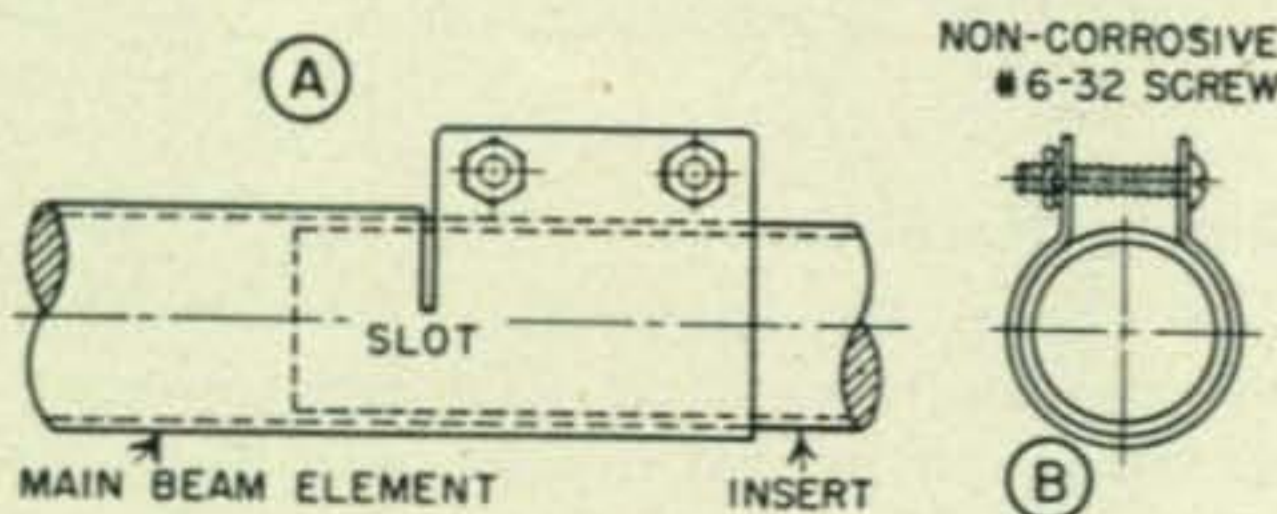
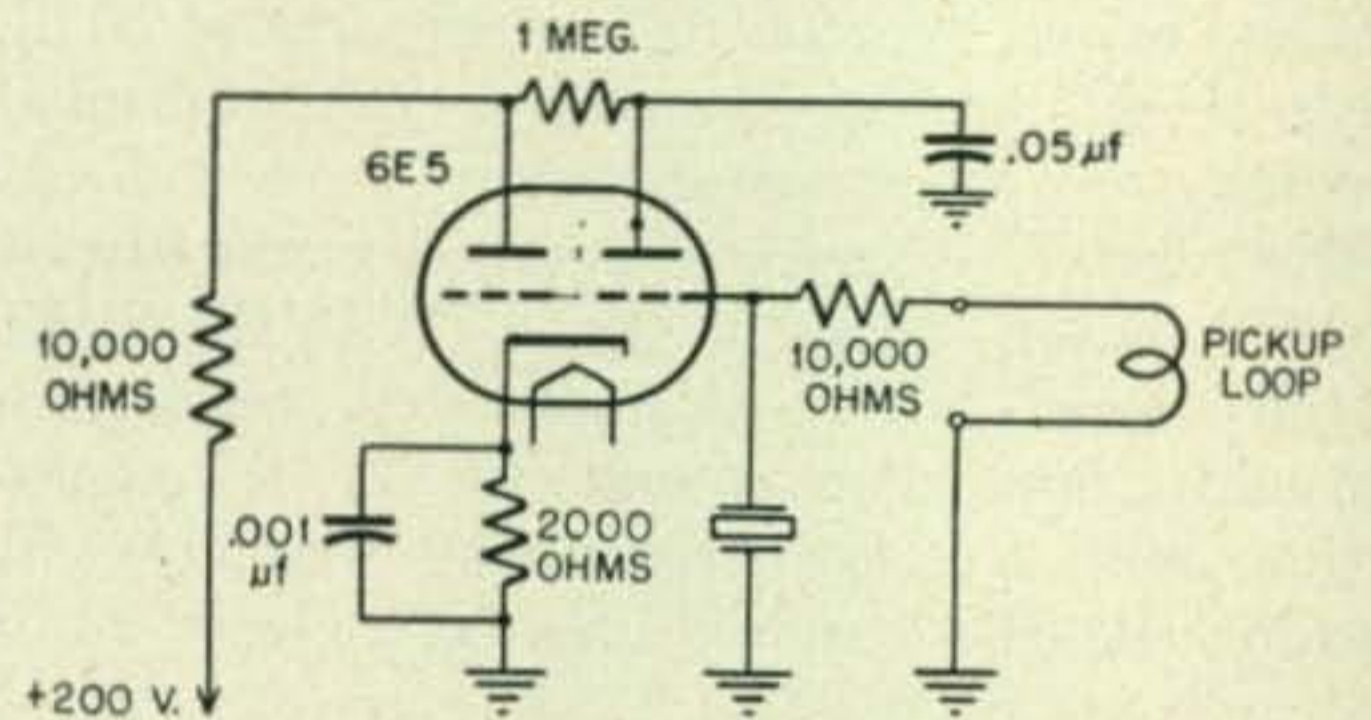
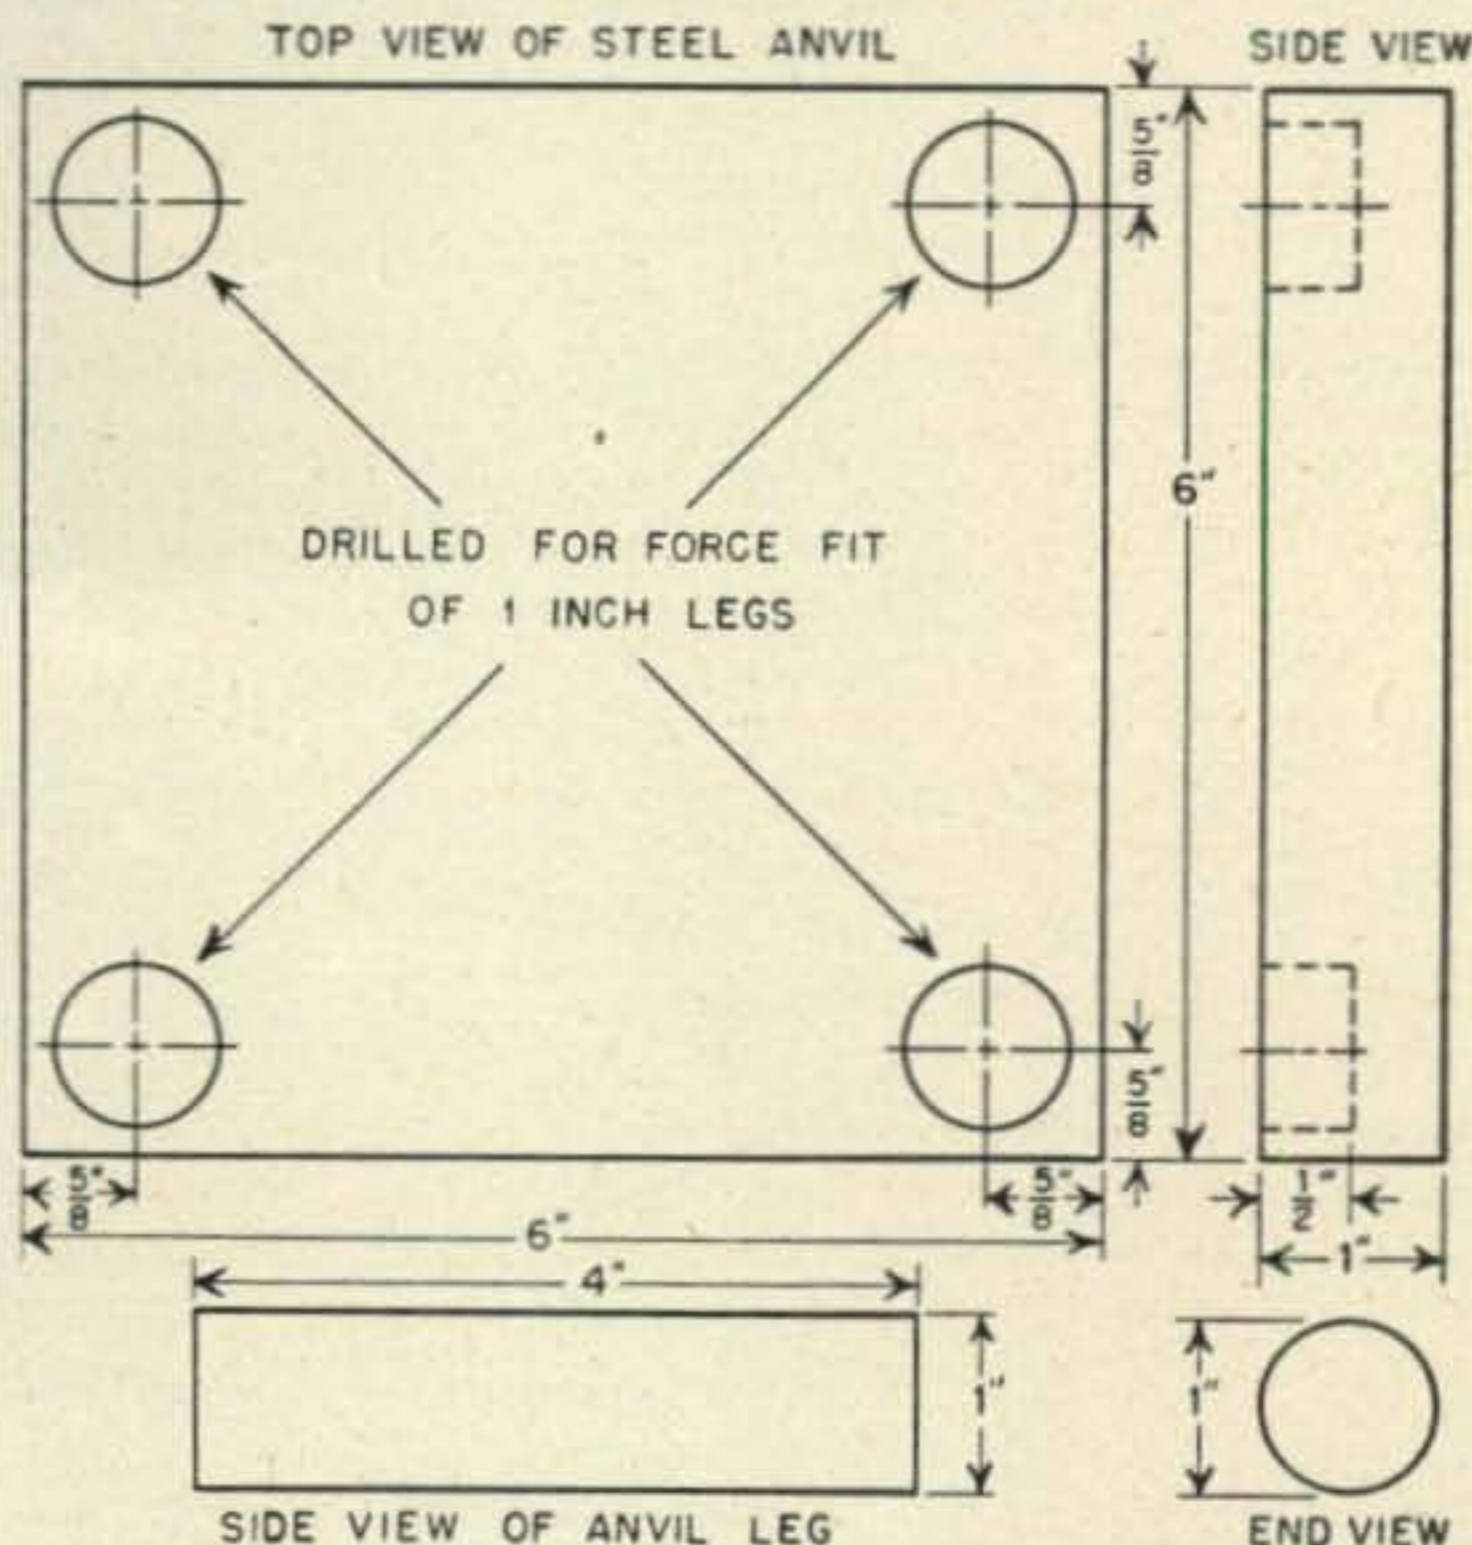

Figure 1
Figure 2
Figure 4
The relay *K105* may be operated manually by a SPST switch shown in *Fig. 1*. With the SPST switch closed, all 11 channels may be set for automatic operation 11 and 10—or a combination, with the low frequencies available by opening the SPST switch may be set up.
**Fig. 1.** Circuit of 10-meter tank circuit and method of wiring into transmitter. The variable condenser across *L1* is single section, 50  $\mu\mu\text{f}$ , *Bud JC-1540* or equivalent. *L1* is 5 turns of  $\frac{1}{8}$ " copper tubing  $1\frac{1}{2}$ " i.d. *L2* is 2 turns of No. 10 wire.
8. Remove the *Low Frequency* front panel and install the 28-volt antenna changeover relay, 10-meter coil and condenser unit. See *Fig. 2* for the suggested positioning.
9. If manual operation is to be used, it will be necessary to install a SPST switch and pilot light and remove and tape the end of wire from terminal 2 of the *K105* holding coil. Replace panel and complete wiring. Substitute a +28 volt lead from terminal #15 *J116* to terminal 2 on *K105*, as shown in *Fig. 1*.
As shown in Fig. 1, the element is slit for a distance of two or more inches, cut half-way through, and the tabs bent outward until they are tangent to the
W3KHJ uses the calibrator-indicator shown in Fig. 2 to check the ends and inside spots in the
In *Fig. 1* the average conditions for a general path from the West Coast of the United States to South and Middle Africa are illustrated. Following the upper outline, or the maximum usable frequency (MUF) a sharp 10 meter opening is indicated when the line crosses the 10 meter band at about 0630 hours PST. Peak conditions are expected around 1100 hours PST with a 10 meter band closing after 1230 hours PST. 20 meter conditions are erratic with the best opening near 0600 PST and 1230 to 1400 PST. In the last week of February a noticeable improvement in conditions will occur with a much stronger 10 meter opening (an MUF of 39.0 mc is expected). Predicted conditions for the west coast to the area about Eastern India, Ceylon and Burma are illustrated in *Fig. 2*. Although a positive 10 meter opening is not expected in the early part of February, a gradual improvement in conditions should result in a good opening around 1730 hours PST by the first week of March. 20 meters should be best after 2000 hours PST with an extension of this opening until 2130 hours by the last week of February.
During the month of February the 10 meter band opening time for the general path from the eastern part of the United States to the Mediterranean area is expected to progress from 0730 hours EST around the first of February to about 0645 hours EST at the end of the month. This is illustrated in *Fig. 4*. The progression of the 10 meter opening times indicates that another peak in F2 layer MUF is being approached. This should be reached in mid-March. During February peak 10 meter conditions will be about 1000 hours EST with an MUF of 34.0 mc. Toward the later portion of the month and partially into the month of March this peak will broaden out around 37.0 mc. 20 meter conditions will be fair around sunrise or 0630 hours EST and after 1400 EST till closing on this band at about 1700 hours EST.
Predicted DX conditions for February over various long transmission paths. The outer edge of the resultant variable is the maximum usable frequency and the inner edge is the optimum working frequency. Fig. 1. (top, left). West Coast of United States to South Africa. Fig. 2. (top, right). West Coast of United States to India, Ceylon and Burma. Fig. 3. (bottom, left). Eastern Coast of United States to Australia. Fig. 4. (bottom, right). Eastern Coast of United States to Eastern Mediterranean area.